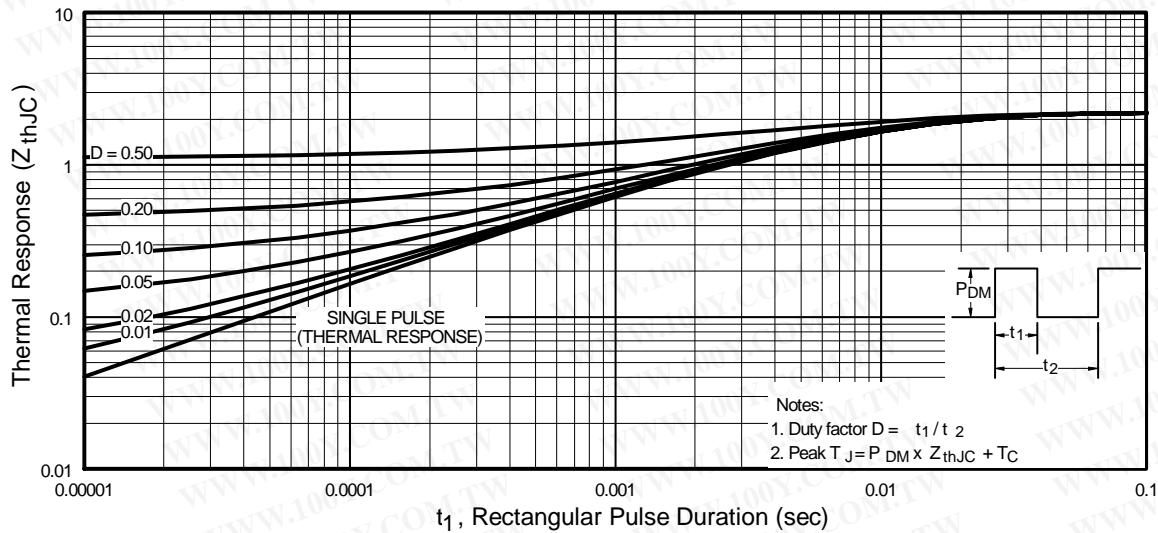

Fig 11. Maximum Effective Transient Thermal Impedance, Junction-to-Case
① Repetitive rating; pulse width limited by max. junction temperature. (See fig. 11)
③ $I_{SD} \leq 16\text{A}$, $dI/dt \leq 270\text{A}/\mu\text{s}$, $V_{\text{DD}} \leq V_{(\text{BR})\text{DSS}}$, $T_J \leq 175^\circ\text{C}$
② $V_{\text{DD}} = 25\text{V}$, starting $T_J = 25^\circ\text{C}$, $L = 610\mu\text{H}$